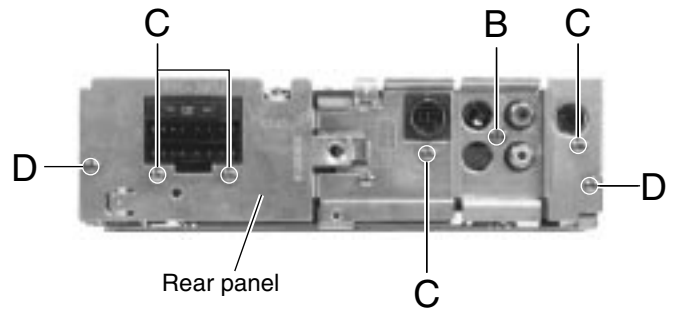

Fig.7
■ Removing the main board (See Fig.7 and 8)
(See Fig.7 and 8)